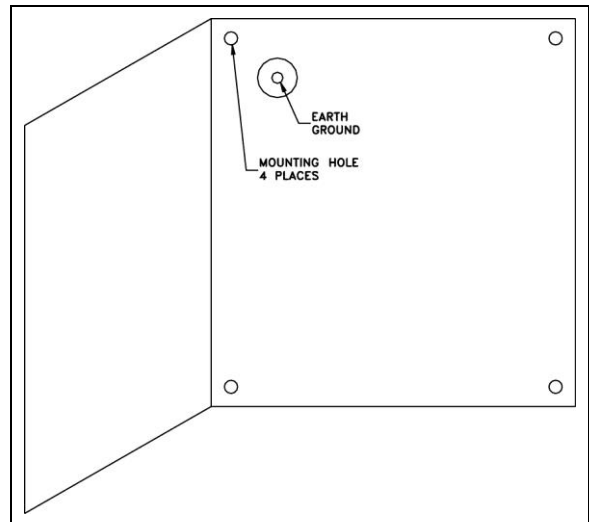

Figure 4: AOC Panel Hole Location
4. Mount 12" × 16" × 4" AOC case, using 4 holes located near corners of case (screws not included). Refer to Figure 4 for mounting hole location.